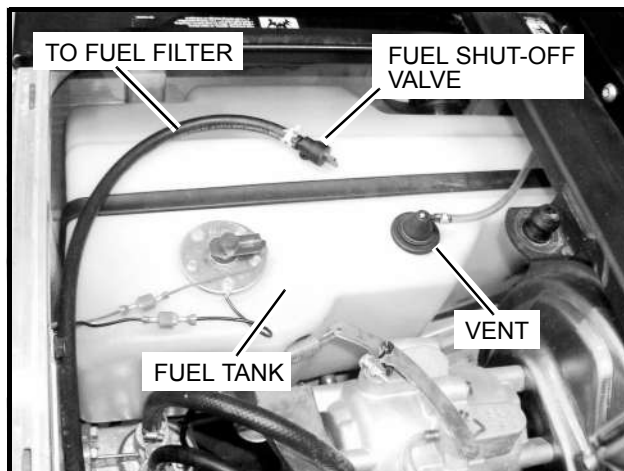
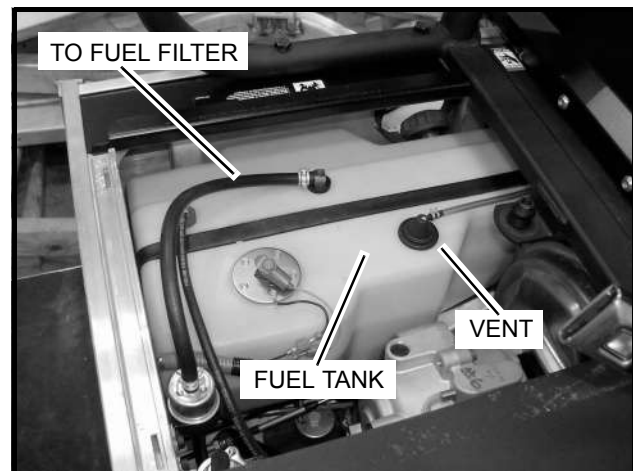

Figure 3-2 Fuel Tank – Gasoline Vehicles
Figure 3-3 Fuel Tank – Diesel Vehicles
- 4.3. Disconnect the fuel vent line from the fuel tank vent nipple (**Figure 3-2, Page 3-3**).
- 6.2. Disconnect the fuel vent line from the fuel tank vent nipple (**Figure 3-3, Page 3-3**).
2. Restore the fuel system to operation (**Figure 3-2, Page 3-3 or Figure 3-3, Page 3-3**).